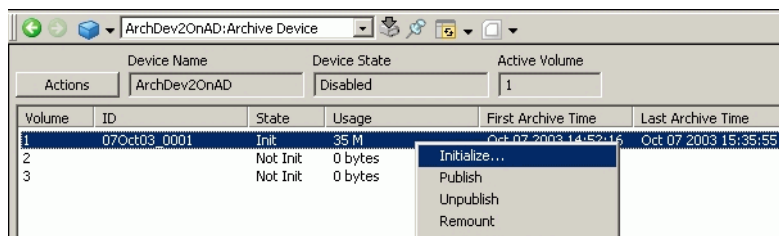

Figure 69. Initializing the Selected Volume
5. If the archive device aspect is being used, once the volume has been remounted, re-select the volume, right click and choose **Initialize** from the context menu as shown in Figure 69.